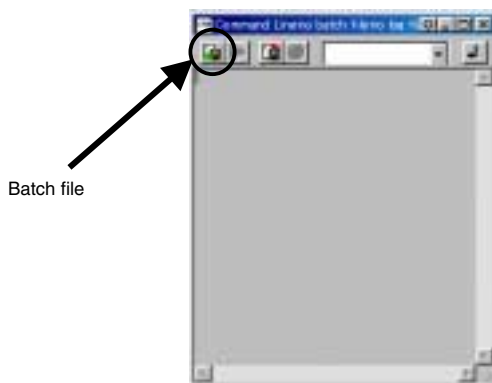

Figure 3.7 Command Line Input
- Select CommandLine in the View menu to open a window (figure 3.7), click the BatchFile button on the upper left, and specify the 7705E10A.hdc file in the SH7705 folder. As a result the access to the SDRAM is enabled and the program counter (PC) is set. To modify the values, change the contents of the 7705E10A.hdc.